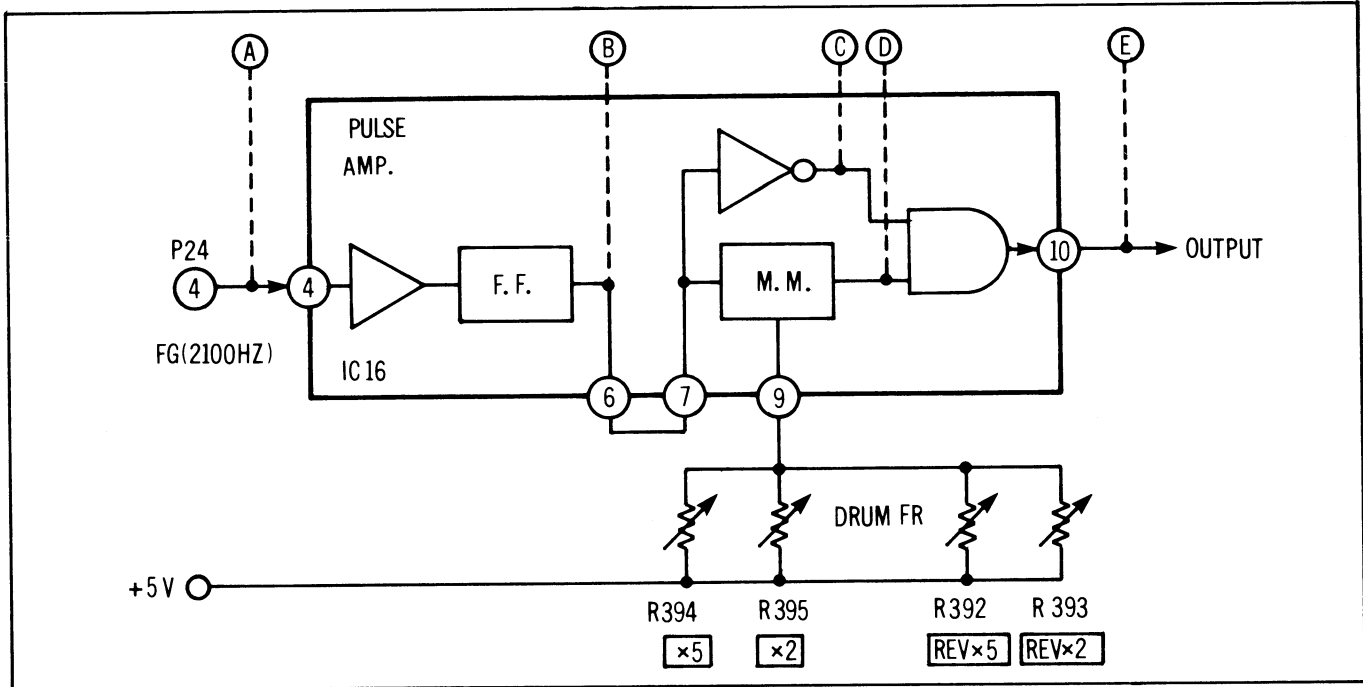

Figure 2-138
is fed into Pin (7) as the input to both a monostable multi-vibrator and an AND gate through an inverter. The other input to the AND gate is the output of the monostable multi-vibrator. The AND gate then produces a pulse whose width is equal to the difference in duration of its two input pulses (See Fig. 2-138 and 2-140).